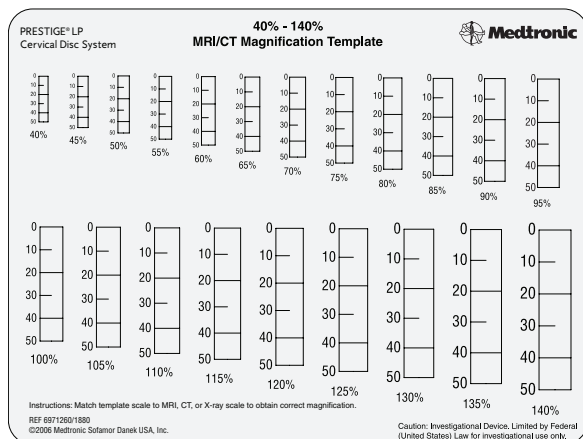

Figure 1a
Use computed tomography (CT) or magnetic resonance image (MRI) so that the slices are parallel to the vertebral body end plates, determine the smaller of the two vertebral body end plates at the target disc space. The use of a CT image is preferred. Do not include spurs or ridges that will be removed in the subsequent burring/decompression process. Determine the magnification factor of the image using the Prestige LP™ Cervical Disc Template Set (**Figure 1a**). Choose the prosthesis template corresponding to the measured magnification factor, and follow the instructions on the template to select the prosthesis size (**Figure 1b**). This templating process will determine the appropriate footprint of the implant, but not the height (**Figures 1c and 1d**).